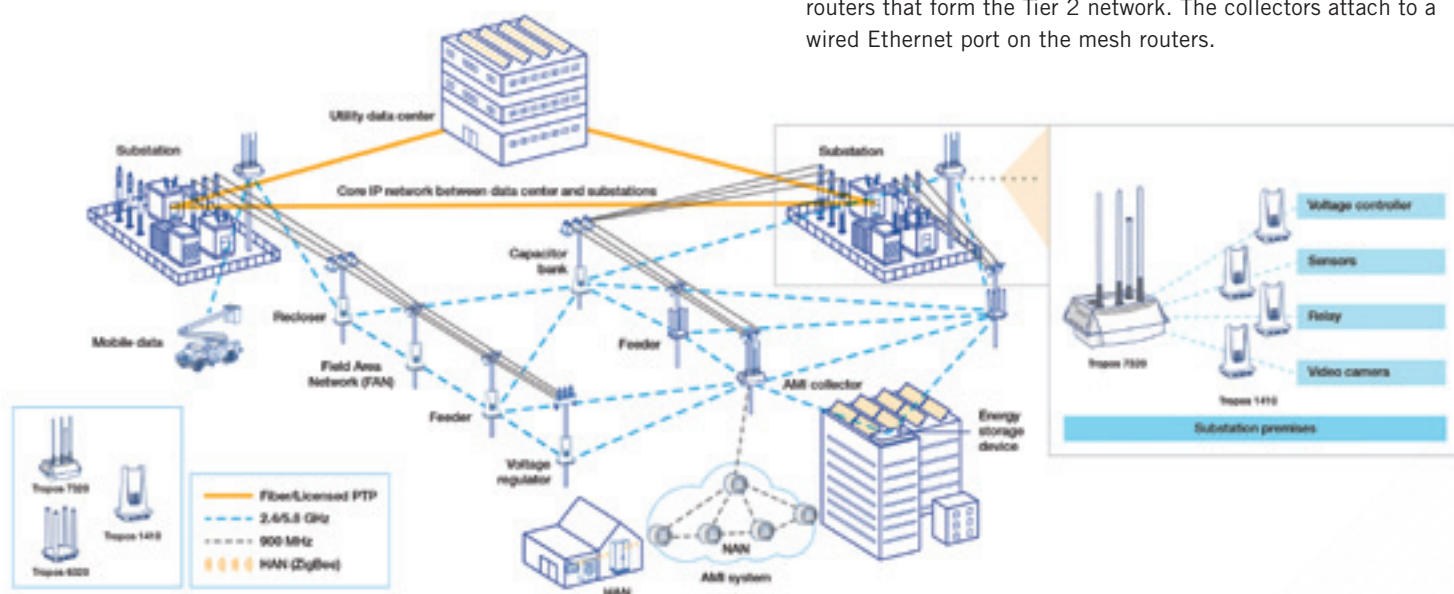

Figure 1: Typical Utility Communication Network Architecture
Utilities typically implement a multi-tier communication network architecture described as follows and illustrated in Figure 1, below:
- Tier 1: The utility's core IP network, shown in yellow in Figure 1. It is generally implemented using fiber and point-to-point (PTP) wireless. In the example of a utility, the core IP network often connects many of the distribution substations. The demarcation point between the Tier 1 network and Tier 2 network is generally a port on a VLAN-capable Ethernet switch. The Tier 1 network connects to the Tier 2 Field Area Network (FAN).
- Tier 2: The FAN, shown by the dashed blue lines in Figure 1. This tier uses wireless technology, usually broadband wireless mesh, point-to-multipoint (PTMP), and/or cellular data. Substation automation devices (e.g., breaker controllers, voltage regulators, and remote terminal units (RTUs)), distribution automation devices (e.g., capacitor bank controllers, recloser controllers, and smart transformers), AMI collectors, and mobile workers equipped with laptops, tablets or handhelds connect to the FAN. FAN connections can be wireless or wired Ethernet or serial links.
- Tier 3: The Neighborhood Area Network (NAN) or advanced metering infrastructure (AMI) network, including smart meters and collectors. This tier is illustrated by the dashed grey lines in Figure 1. It is generally implemented using narrowband wireless mesh or cellular data. When a broadband wireless mesh network is used to implement the Tier 2 network, the AMI collectors in the Tier 3 networks are generally co-located with the mesh routers that form the Tier 2 network. The collectors attach to a wired Ethernet port on the mesh routers.
- Tier 4: The Home Area Network (HAN). HANs are implemented using ZigBee or HomePlug technology. They network smart appliances and in-home displays, connecting to the NAN via a smart meter. The HAN is shown inside the house in the lower middle portion of Figure 1.